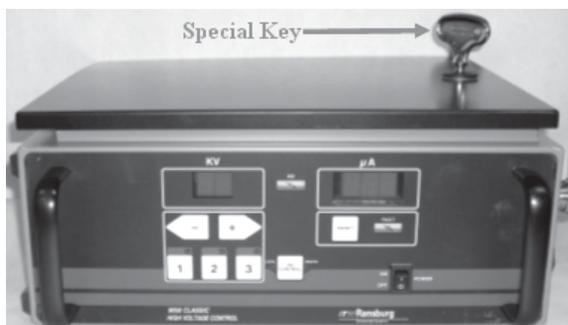

Figure 1: Power Supply and Special Key to Open Lid
15. Close the lid of the power supply and lock in place with the special key (see Figure 1).